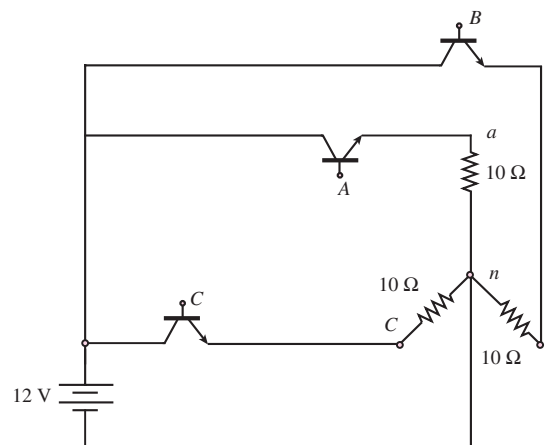

Figure P12.34
**12.34** The switched mode power supply of Figure P12.34 will convert DC to three-phase AC. Sketch timing diagrams for the three low-power clock inputs to generate a balanced three-phase source. Also sketch the current in the neutral return wire. Assume the period of the cycle is normalized.